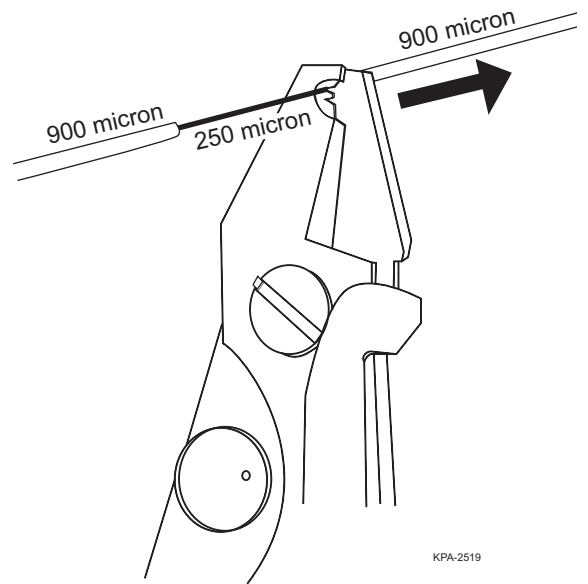

Figure 3
- Step 2:** Place the fiber in the proper hole (Figure 3):